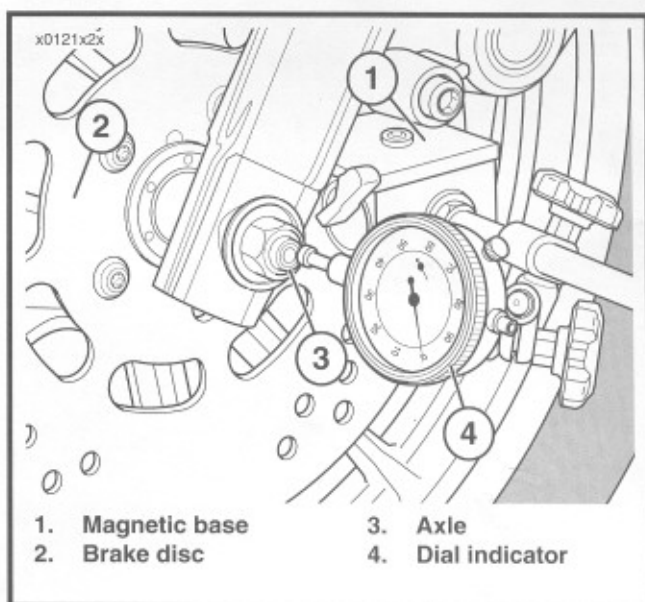

Figure 2-6. Check Wheel Bearing End Play
3. See Figure 2-6. Install flat washer (2), lock washer (3) and axle nut (4) over threaded end of axle. Insert screwdriver or steel rod through hole in axle on right side of vehicle. While holding axle stationary, tighten axle nut to 50-55 ft-lbs (68-75 Nm) torque.
6. See Figure 2-6. Mount a magnetic base dial indicator on the brake disc. Set the indicator contact point on the end of the axle. Move the wheel back as far as it will go. Holding the wheel in position, zero the dial indicator gauge. Move the wheel forward as far as it will go. Note the reading of the dial indicator. The lateral movement or end play must fall between 0.002 and 0.006 in. (0.05-0.15 mm). Repeat the procedure to verify the reading.